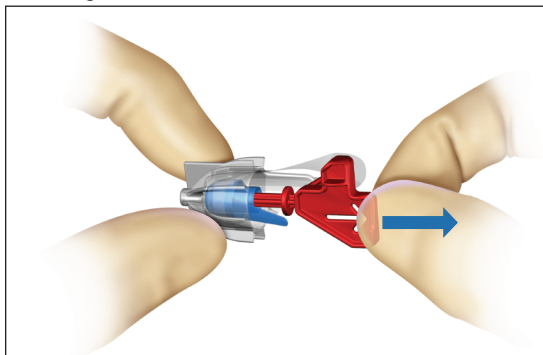

Figure 11. Packaging Tab
- a. Once the proper Earplug size has been selected, remove the Earplug from its packaging. Note that the Earplug is protected with a Cap to ensure the user's fingers do not contact the adhesive present on the surface of the Earplug (**Figures 11 and 12**). Remove the Earset from its packaging by grasping the Handle of the Earset. Remove the red Packaging Tab and discard (**Figure 11**).